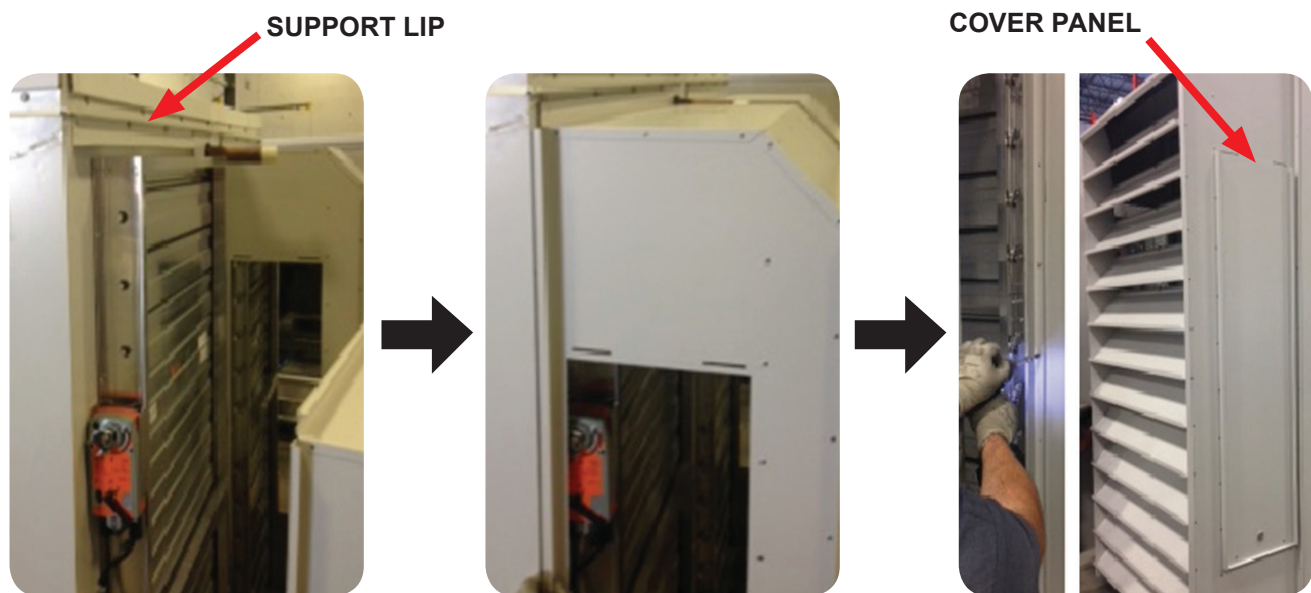

Figure 3. Outdoor Dehumidifier – Louver Installation
- Uncrate/unwrap provided louver and place it over respective opening/damper (Figure 3):